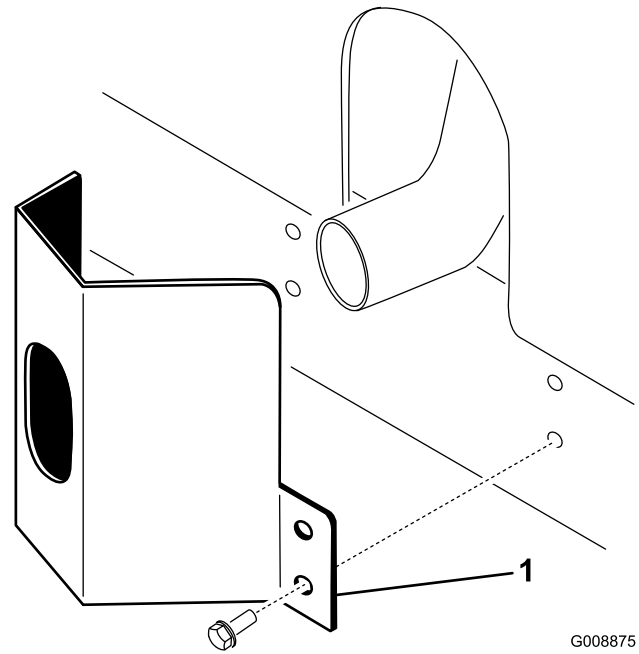

Figure 11
- 2. Secure the exhaust guard to the frame with 4 self-tapping screws (Figure 11).
- 1. Position the exhaust guard around the muffler while aligning the mounting holes with the holes in the frame (Figure 11).